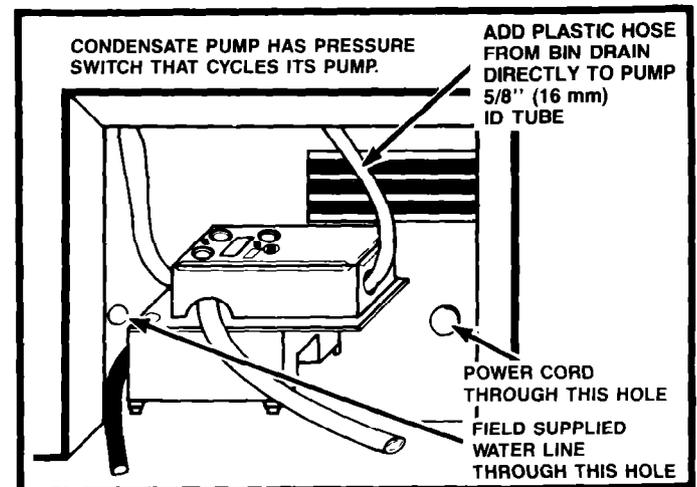

FIGURE 5A
- 2 Install condensate pump on floor behind ice maker with discharge tube to the rear. Run drain bin directly into pump as shown in Figure 5A.
- 3 Run power cord through hole into unit compartment. (See Figure 5A)